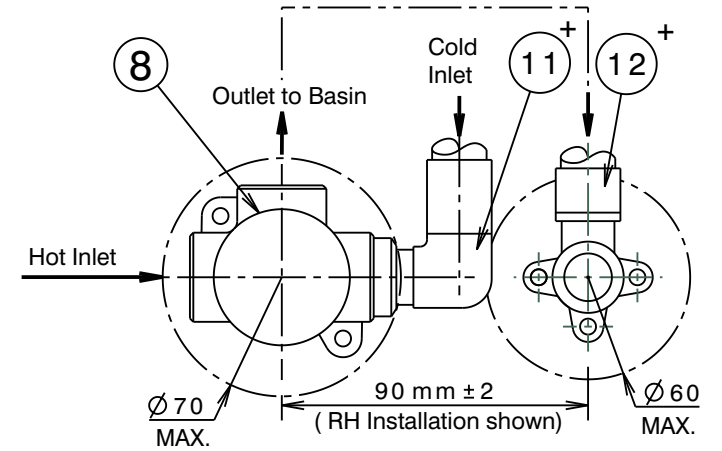

Fig. 2
- 1) Fit mixer body (8) onto a suitable mounting plate or noggin in the wall and secure using screws through the holes in its base. When facing the mixer, the connections should be as follows : Hot water inlet connection 'H' to the left. Cold water inlet connection 'C' to the right. Mixed water outlet connection, vertically upwards.
Note : A suitable elbow fitting (11⁺) should be fitted to the inlet connection adjacent to the bath outlet (19) (Fig.2). Check all connections for leaks.
Important : All care should be taken that the wall elbow (12⁺) is mounted accurately in line with, and at a distance of 90mm±2 from the adjacent mixer body (8) and that it is square to the wall/tile face (Fig.2). Connect the mixer body outlet to the wall elbow (12⁺). **Note**: Pipework and fittings are not supplied.